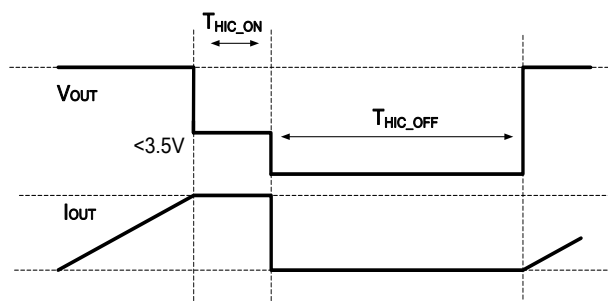

Figure 5: Over-Current Protection
The external resistor (R_{Limit}) can set the current limit threshold. If an over-current (OC) condition occurs but V_{OUT} is higher than 3.5V, the MP5030C works at a constant current (CC) limit mode without hiccup mode. If the OC is triggered and V_{OUT} is lower than 3.5V for 2ms, the MP5030C enters hiccup mode. In hiccup mode, the MP5030C turns off the power MOSFET (see Figure 5).